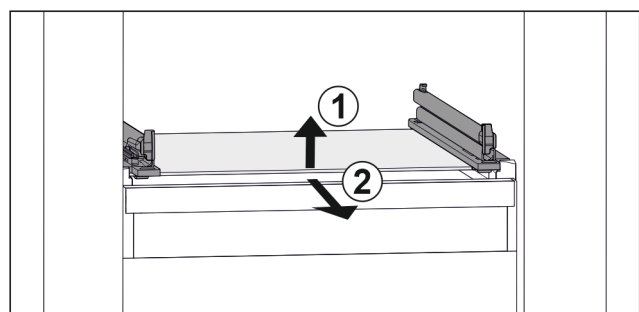

Fig. 117 Example illustration of glass shelf
- ▶ Lift glass shelf at the front. Fig. 117 (1)
- ▶ Remove glass shelf to the front. Fig. 117 (2)